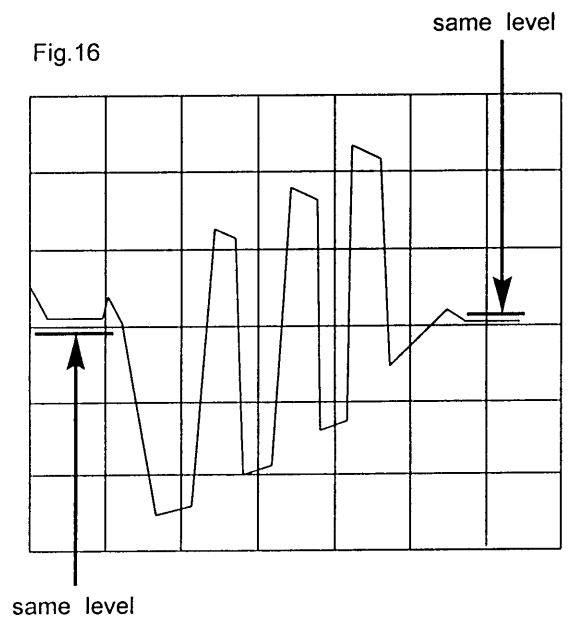

Fig.16
5. Turn T302 to obtain Fig.16.